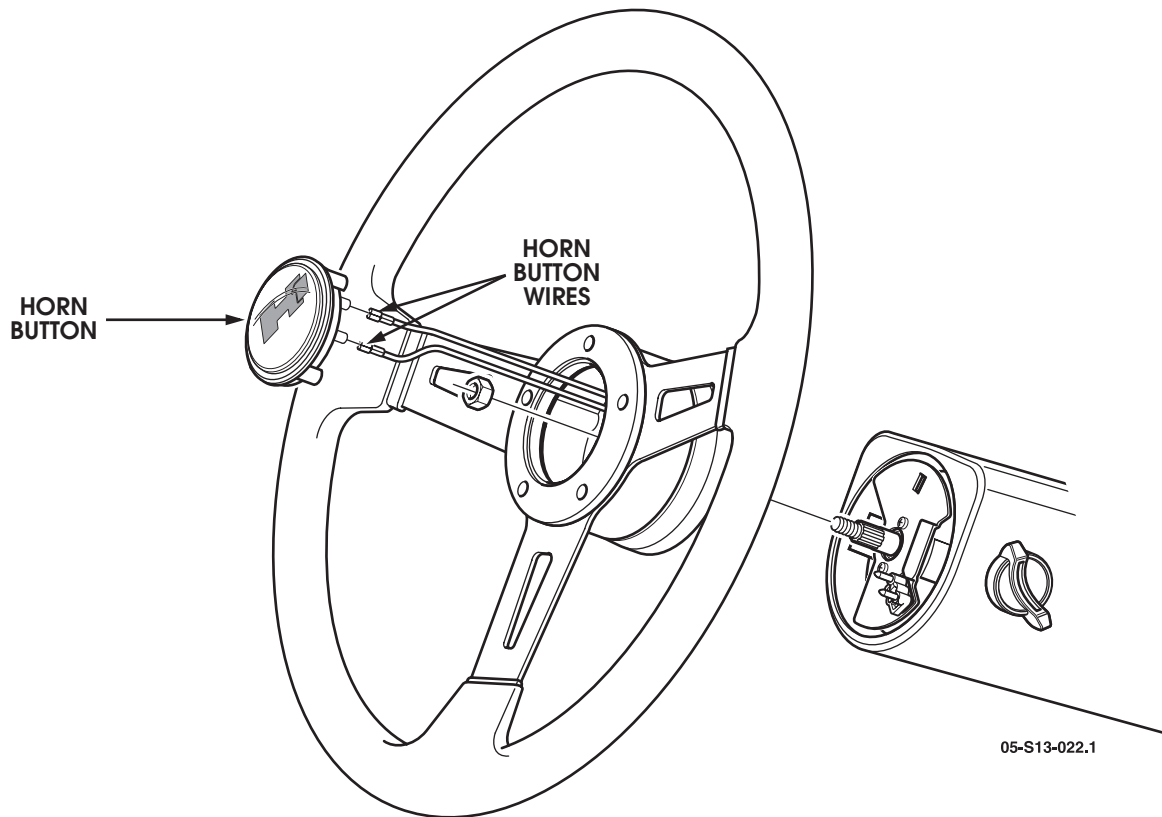

Figure 3: Steering wheel and horn button.
8. Plug the horn button wires in and install the button (See Figure 3).